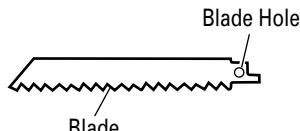

Fig. 11
**Do not use any saw blade with a worn-out blade hole. Otherwise, the saw blade can come off, resulting in personal injury. (Fig. 11)**